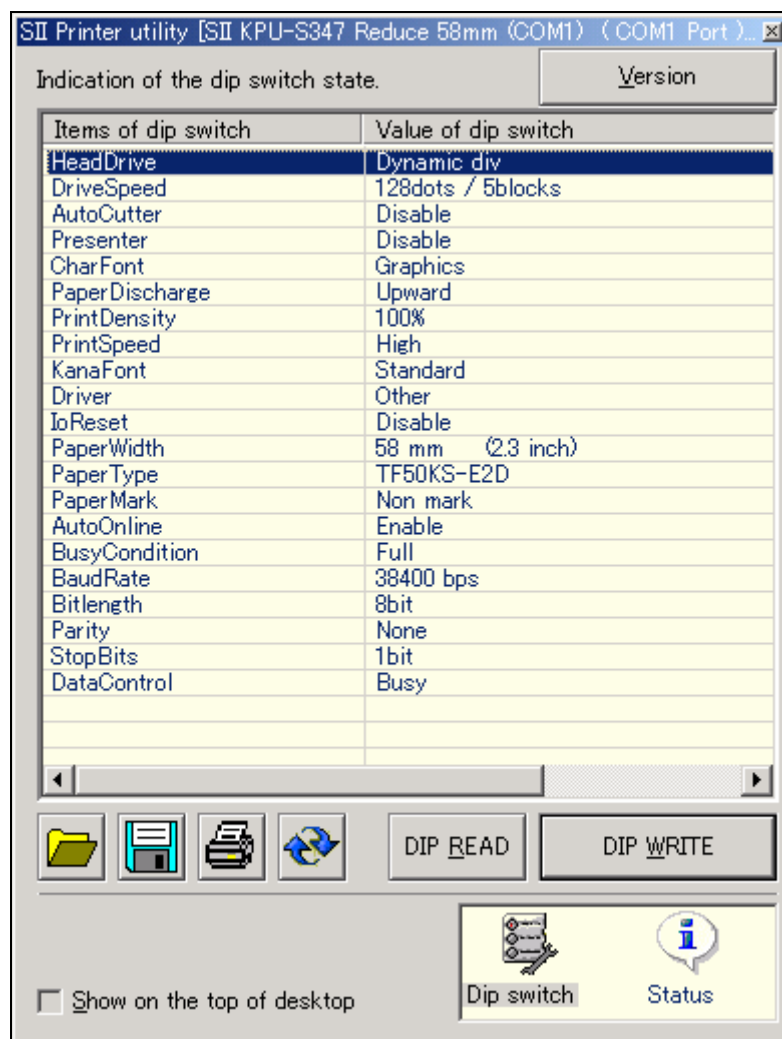

Figure 4-1 Printer Hardware Setting Software Screen
- (3) When the connection is completed successfully, the current setting is listed (Figure 4-1). If not, an error warning is displayed and printer hardware setting screen becomes invalid.